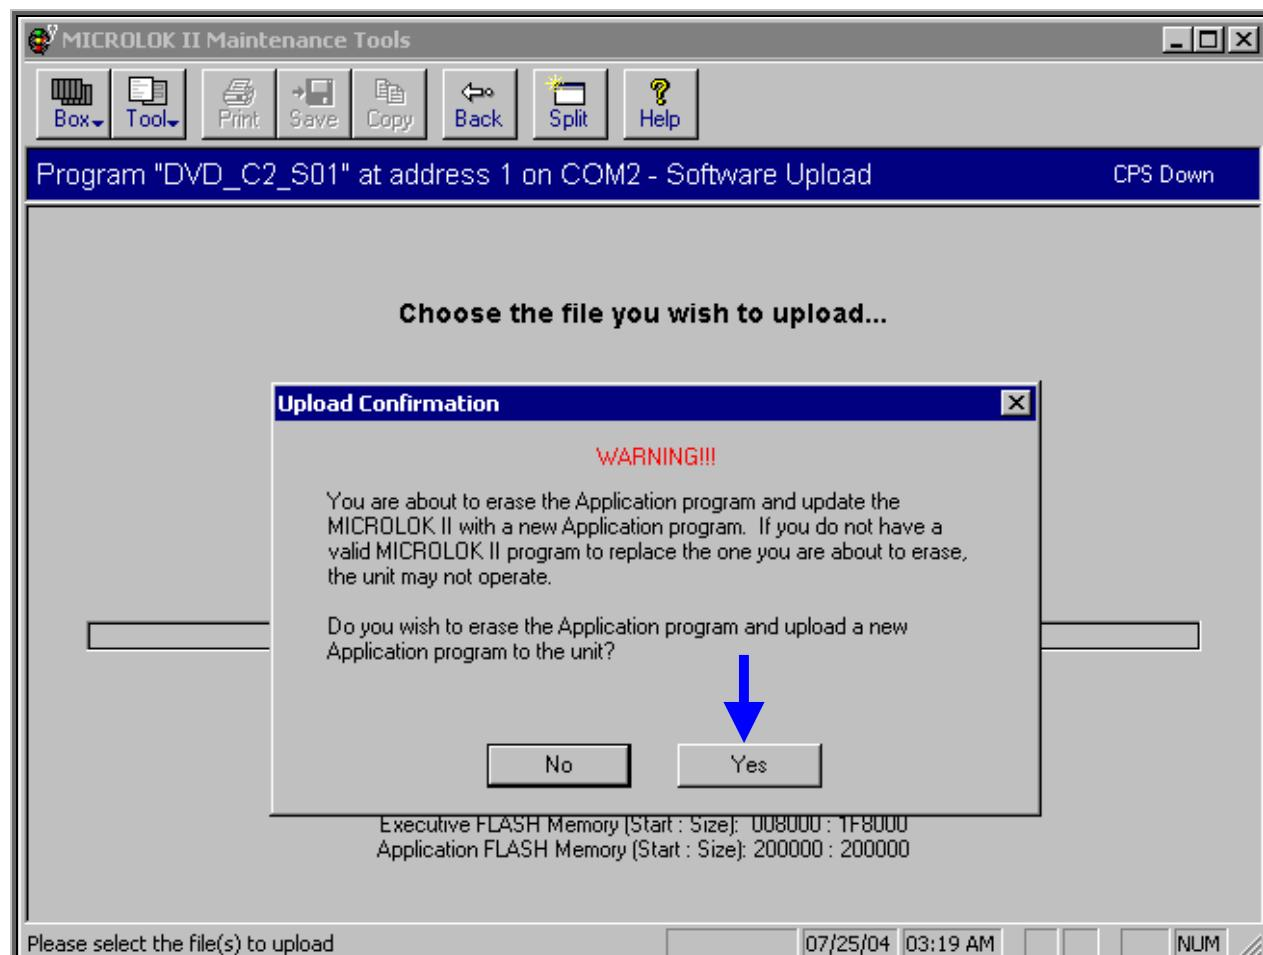

Figure-5.9.8
- ❖ “Upload Confirmation” mini window appears (Figure-5.9.8).